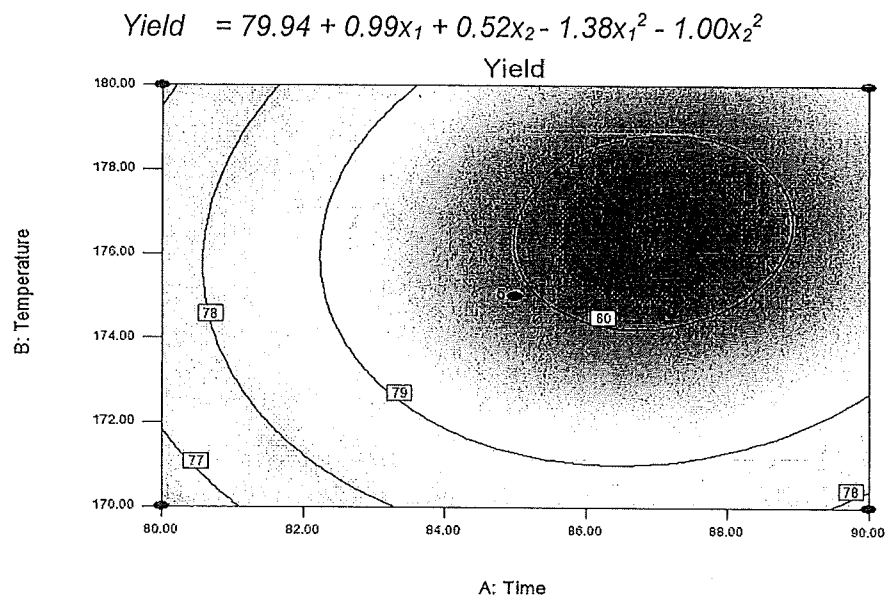

Figure 9 : 2D Contour Plot for Yield
- (i) Based on your observation in Figure 9, and overall results of regression on coded model, perform concise analysis on this experiment.